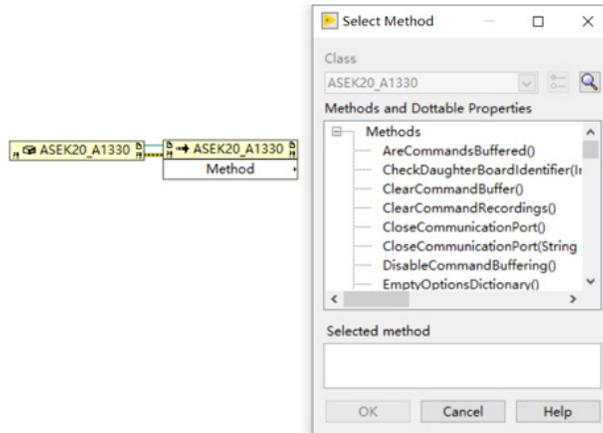
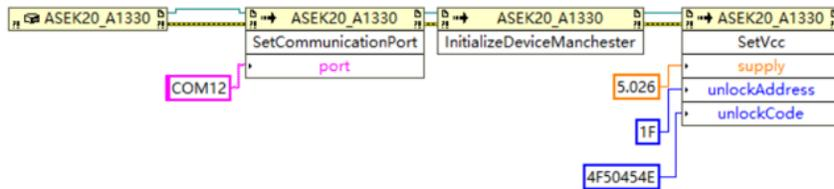

Figure 6
Figure 7
- Now the constructor node should be ASEK20_A1330. In order to facilitate communication with the ASEK-20, select the communication port the ASEK-20 will use by dragging an invoke node from the .NET palette, wiring the reference from the constructor node to the reference on the invoke node, and choosing the 'SetCommunicationPort' as Method, as shown in Figure 6. Create a string constant with the com port name that the ASEK-20 is using and connect it to port; here, the PC port is 'COM12', as shown in Figure 7.
- In order to communicate with the part, the communication protocol must be initialized; therefore, create another invoke node, wire it in to the reference, and select the method "InitializeDeviceManchester", as shown in Figure 7.
Set supplyVoltage to 5.026 to make the supply from ASEK-20/21 output 5 V. The A1330 must also have the customer code supplied during power-up to unlock the registers for reading and writing. The unlockAddress is 0x1F and unlockCode is 0x4F50454E. Create hexadecimal numeric constants with '0x1F' and '0x4F50454E', and connect them to corresponding inputs, as shown in Figure 7.